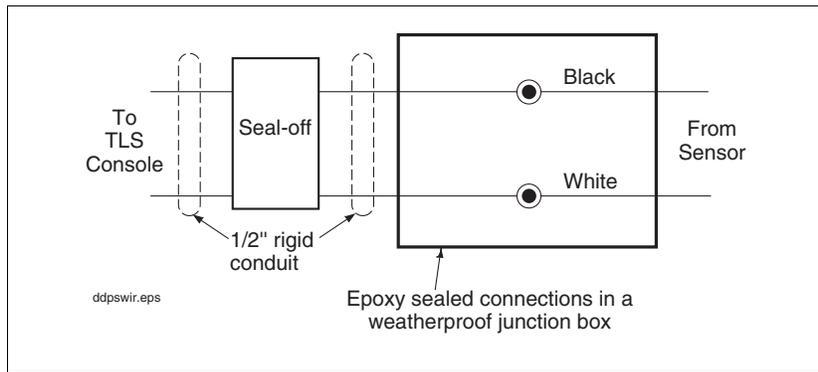

Figure 4. Sensor Wiring Connections (No Polarity)
4. Using wire nuts, connect the two-wire cable to the field wires from the console as shown in Figure 4. and seal connections in epoxy pack as shown in Figure 5.